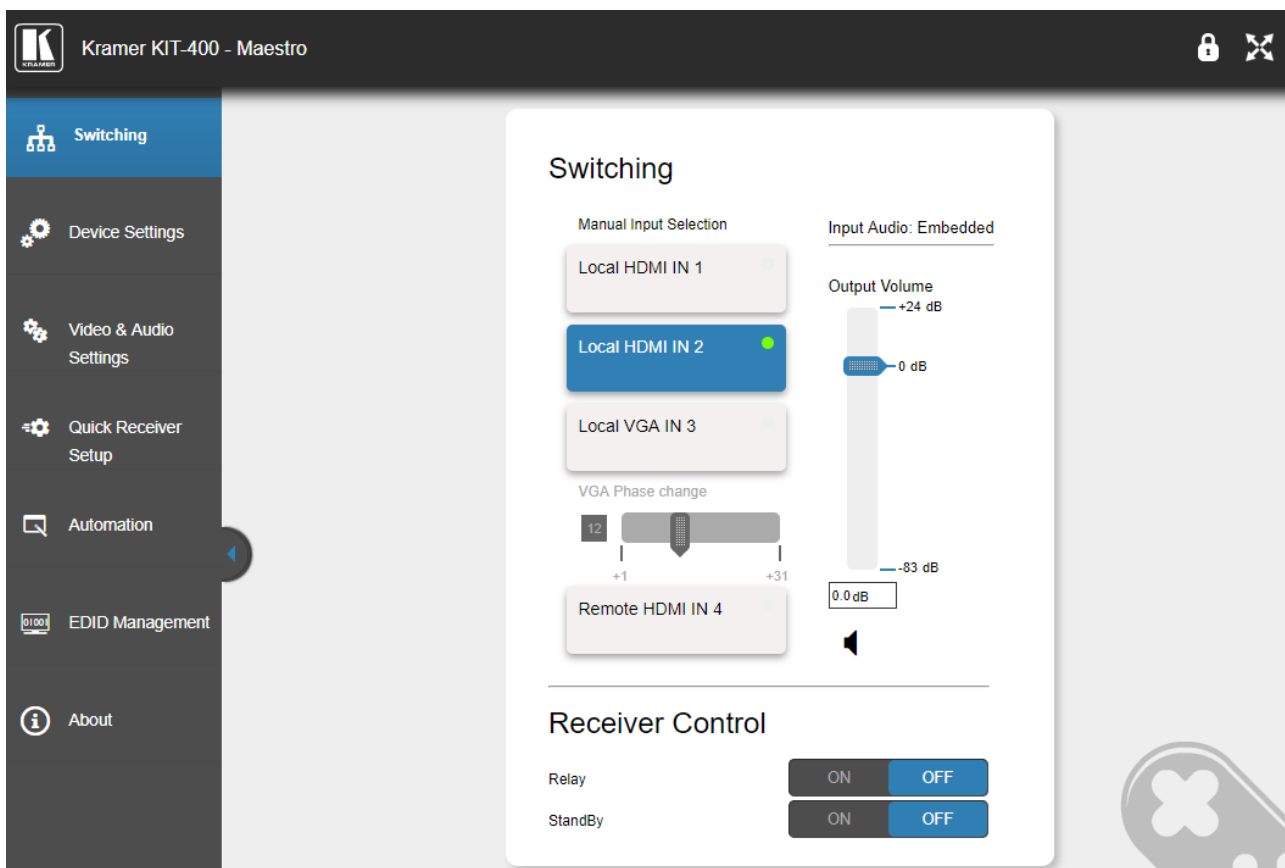

Figure 17: Switching Page with Navigation List on Left
A green dot, on an input button, indicates that it is connected to an active source, as shown in Figure 17, for HDMI IN 2.
1. In the Navigation pane, click **Switching**. The Switching page appears (see Figure 17).
1. In the Navigation pane, click **Switching**. The Switching page appears (Figure 17).